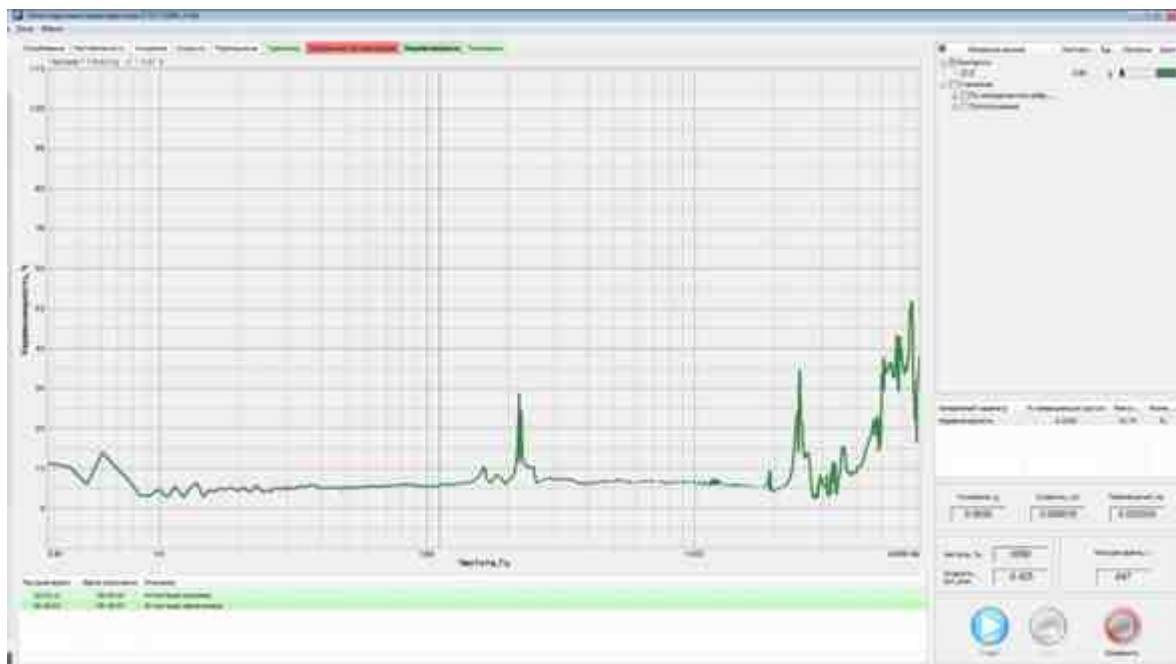

Fig. 6.10 Unevenness of Distribution tab
4. At the end of the sine signal oscillation within the rated frequency range, the results recorded will be displayed (in numerical and graphical forms) on the Distribution Over Table tab (Fig. 6.10).